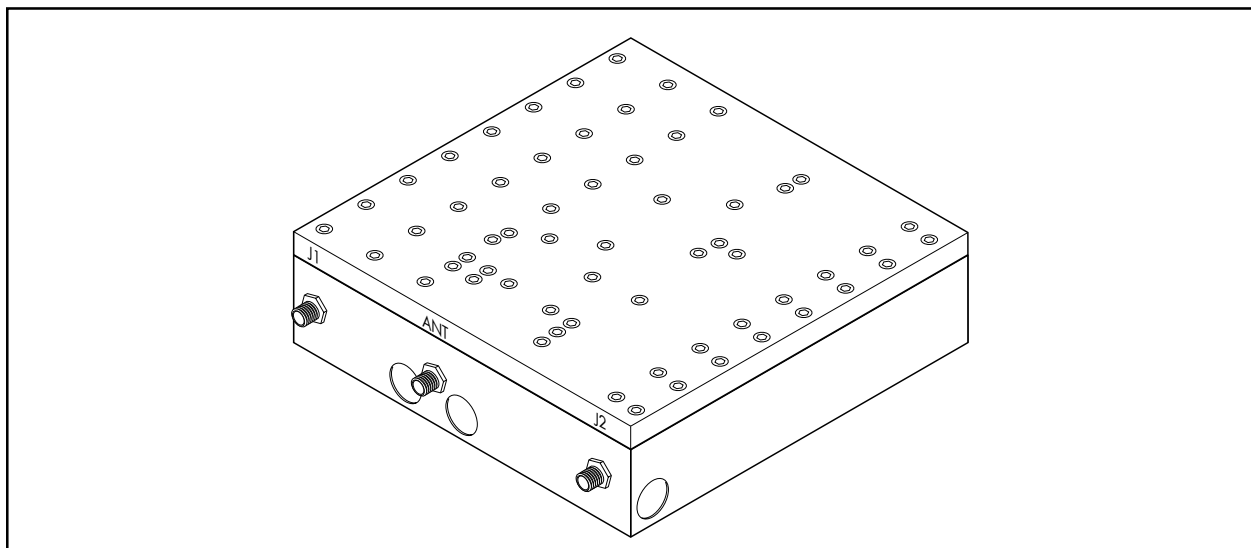

Figure 2-1. 2.4 GHz Diplexer
2. The RF unit may be identified by following the connection from the port labelled “IF” on the rear of the RFC. This connection terminates at the RF unit. The diplexer may be identified by following the connection from the “Antenna” port on the rear of the RFC. This connection terminates at the diplexer, illustrated in **Figure 2-1**.